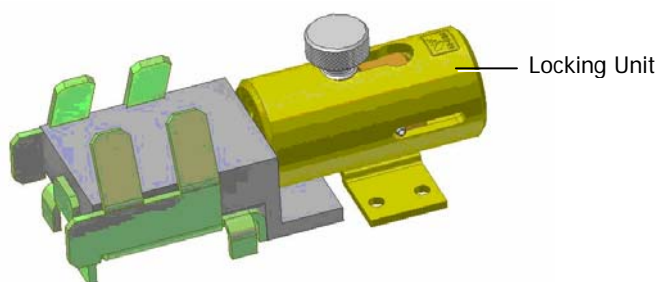

Figure 3-1. Locking and Seal Housing Units
3. Move the Locking unit knob towards the installation tool (refer to Figure 3-1).